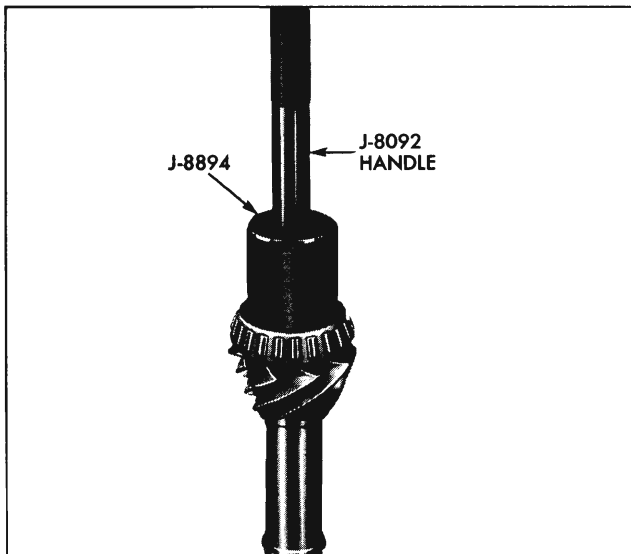

Fig. 4-42 Tool Positioned to Install Rear Pinion Bearing
1. Press on rear pinion bearing use J-8894 and J-8092 handle (Fig. 4-42).